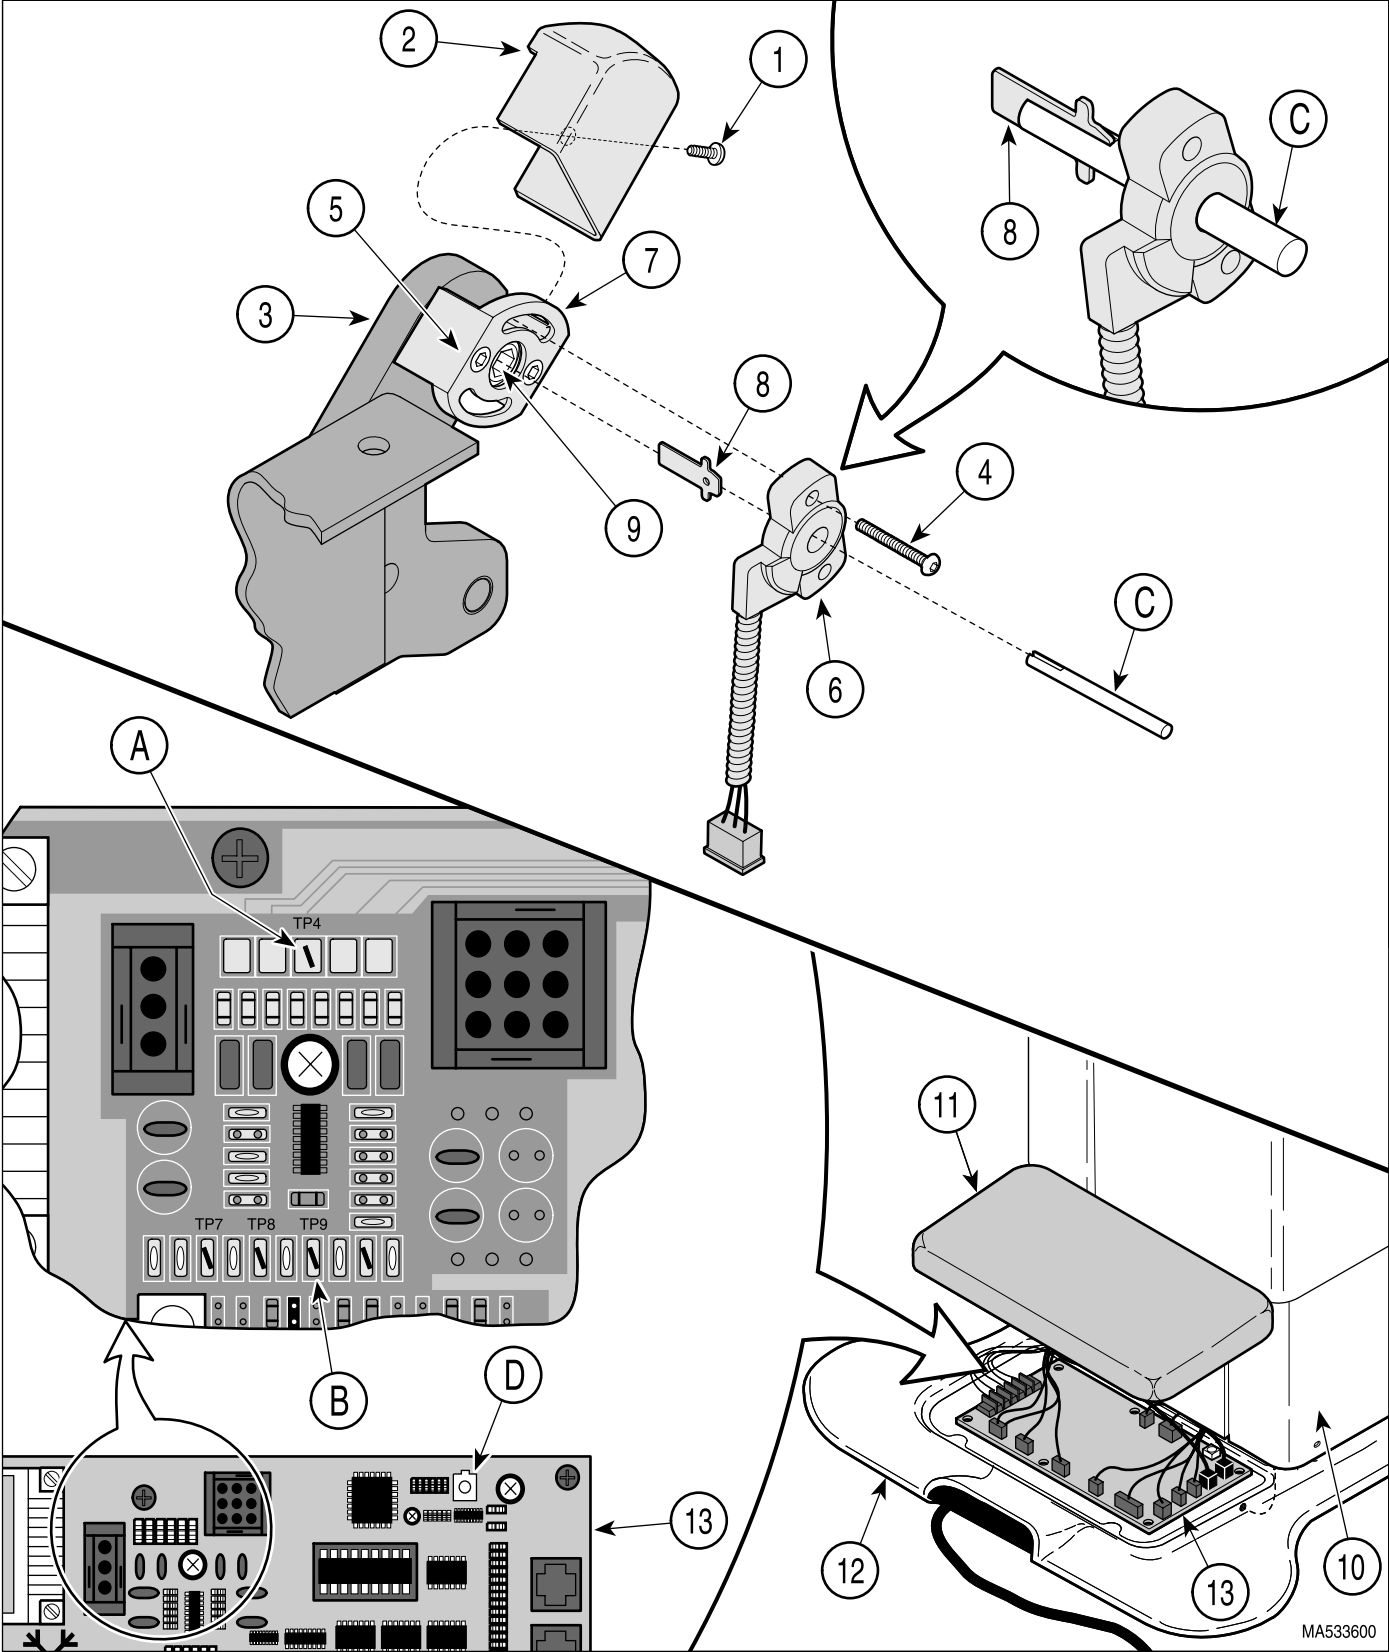

Figure 4-57. Back Position Sensor Removal / Installation / Adjustment
- (4) Remove two screws (3) and electrical cover (4).
- (5) Cut cable tie (5) securing back sensor harness (6) to seat weldment (7).
- (6) Disconnect back sensor harness (6) from harness (8); then pull back sensor harness out thru access hole (A).
- (7) Remove screw (1, Figure 4-57) and back sensor cover (2) from seat weldment (3).
- (8) Using a T15 torx wrench, remove two screws (4), backing plate (5), and back position sensor (6) from position sensor mount (7).
- (9) Remove 5/16" hex drive (8) from head of screw (9).
- (2) Connect negative (black) lead of multimeter to TP4 (A, Figure 4-57) and positive (red) lead of multimeter to TP9 (B) of PC control board (13).
- (3) Set multimeter to VDC setting. Then set the voltage range of the multimeter to the 0-20 VDC range.
- (9) Run BACK DOWN function all the way down.
- (10) Slide sensor holder tool (C, Figure 4-57) thru the center hole of back position sensor (6).
- (11) Insert 5/16" hex drive (8) into slot of sensor holder tool (C).
- (12) Pull on holder sensor tool (C) until 5/16" hex drive (8) is engaged with back position sensor (6). Then, rotate sensor holder tool slightly to apply friction on 5/16" hex drive and prevent it from "popping" out as back position sensor is installed. The 5/16" hex drive is properly engaged when spring tension is felt as the sensor holder tool is rotated. Also, the multimeter